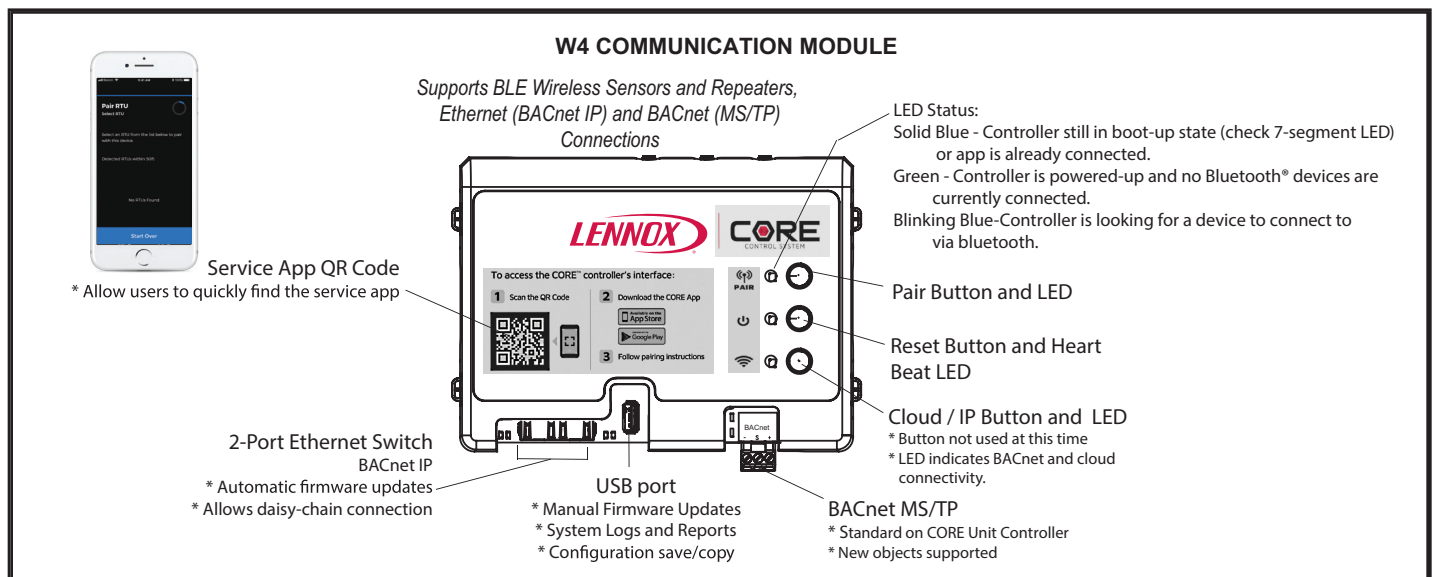

FIGURE 21
- 2 - Press and hold the pair button for five seconds. See FIGURE 21.